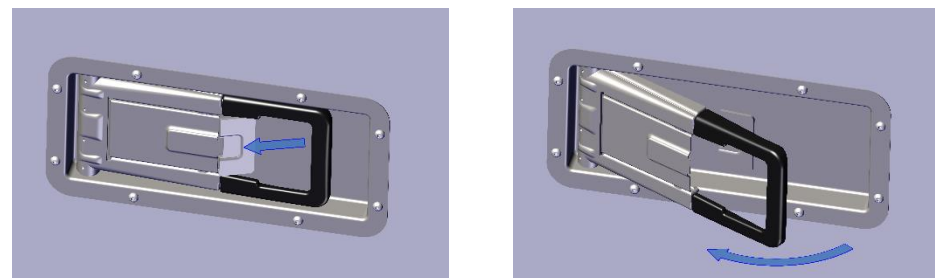

Figure 16 – Door handle opening.
1. Press the lock on the handle to release it (**Figure 16**);
2. Pull the handle (**Figure 16**);